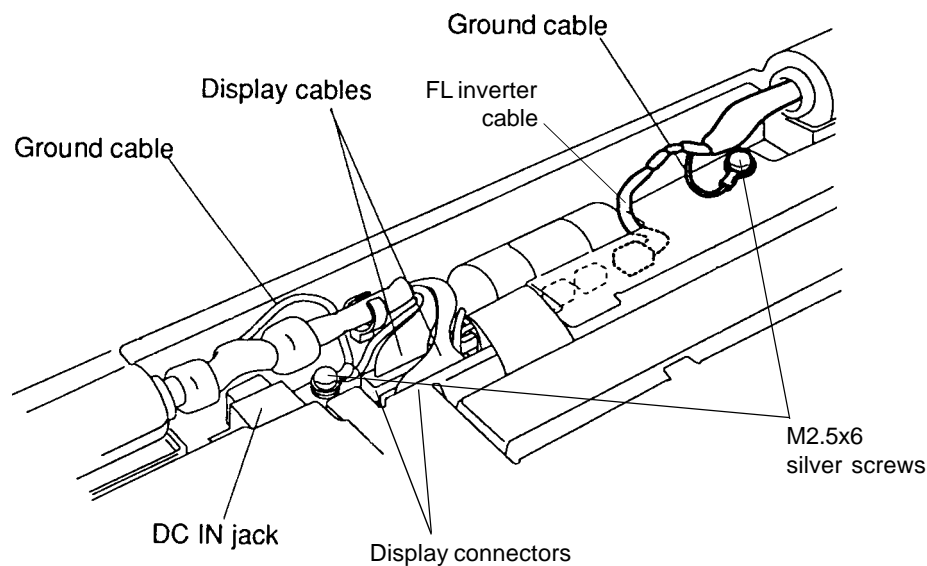

Figure 4-19 Routing the Display Cables
CAUTION: If you replace a cable with a new one, be sure to bend and route it as indicated in the following diagrams so that it fits snugly and will not be pinched by the top cover or other components (Figures 4-19 and 4-20).
3. Connect and route the **FL inverter cable** and the **two display cables** to their respective **connectors** on the system PCB (Figure 4-19).